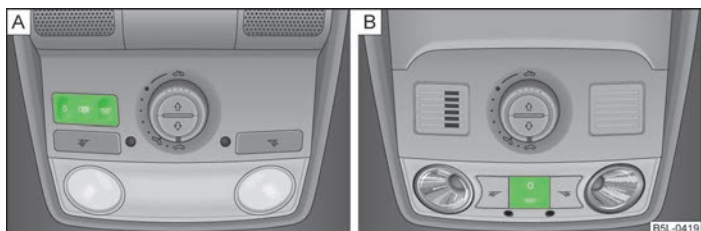

Fig. 30 Interior lights at the front
- Press the switch » Fig. 30 in the area of the symbol ☞.
- Press the switch » Fig. 30 in the area of the symbol O.
- Place the switch into the middle position. On vehicles without an interior monitor, the middle position is marked with the symbol ☞ » Fig. 30 - A.